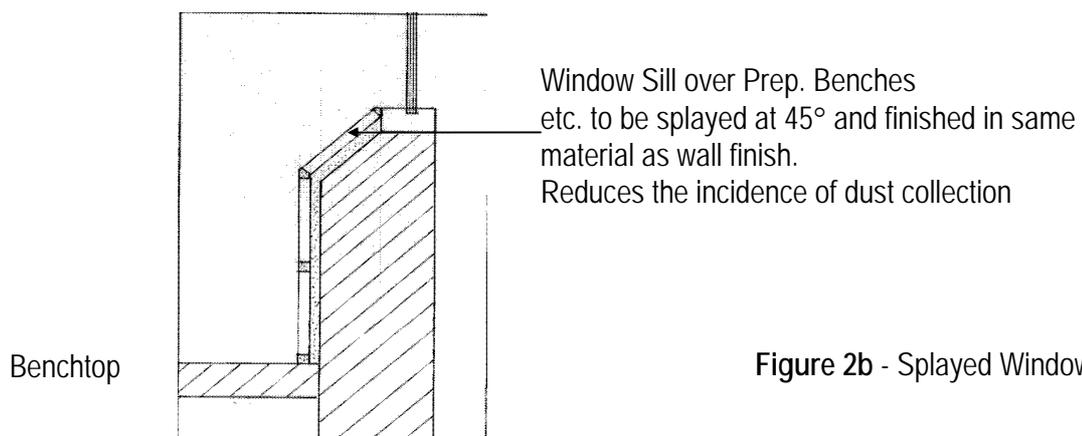

Figure 2b - Splayed Window Sill
**Window openings** in kitchens and food preparation areas are to be constructed to minimize dust collection and access by being free from cracks crevices and ledges where possible. Use of windowsills that are splayed at an angle of 45° will reduce the incidence of dust collection (see Figure 2b). Using rounded or bullnosed edges around a window eliminate cracks and crevices associated with architraves. Windows should be 300mm above benches and wash up areas to reduce the need for cleaning.